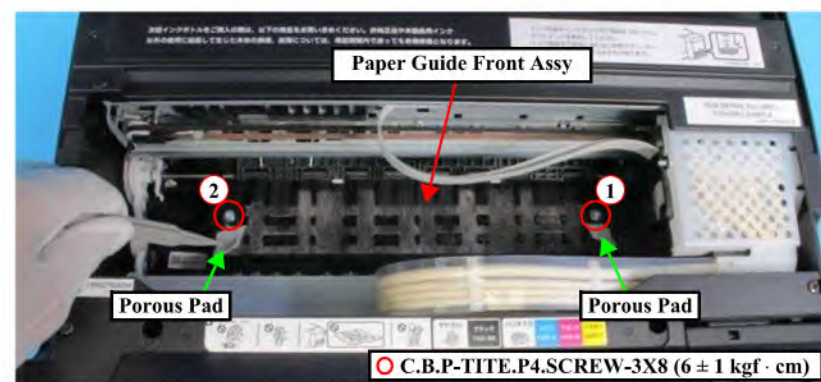

Figure 3-34. Removing the screw
1. On the Paper Guide Front Assy, peel the two portions of porous pad as shown in Figure 3-34.
Screw in the order given in Figure 3-34